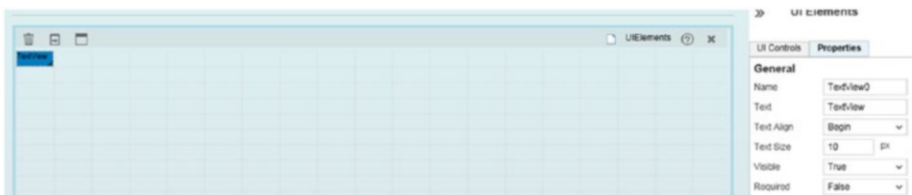

Figure 7-74. UI element properties in SSCE
- ✓ Once the selected UI element is chosen, the Properties tab displaying all the properties associated with that UI element appears on the right pane, as shown in Figure 7-74.